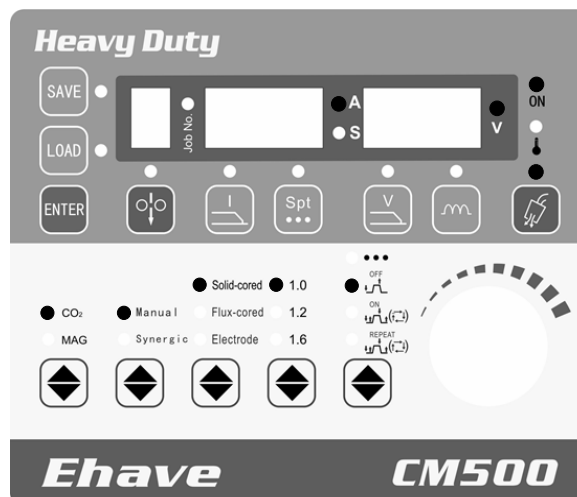

Figure 3-18 Setting gas detection
3. Figure 3-18 shows the control panel where the parameters have been set.
3. Select the welding parameter settings to be saved. Figure 3-18 shows the control panel where the parameter settings are saved.